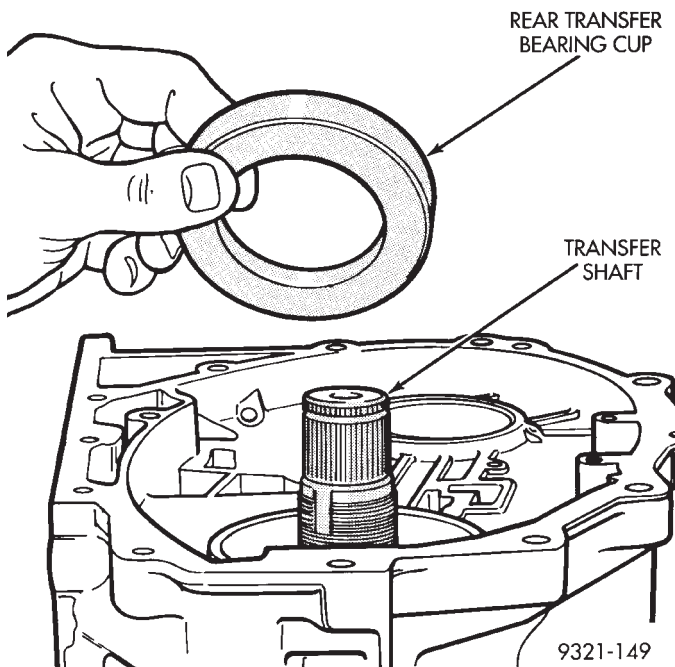

Fig. 328 Rear Transfer Bearing Cup
(39) Install rear transfer shaft cup into case (Fig. 328).